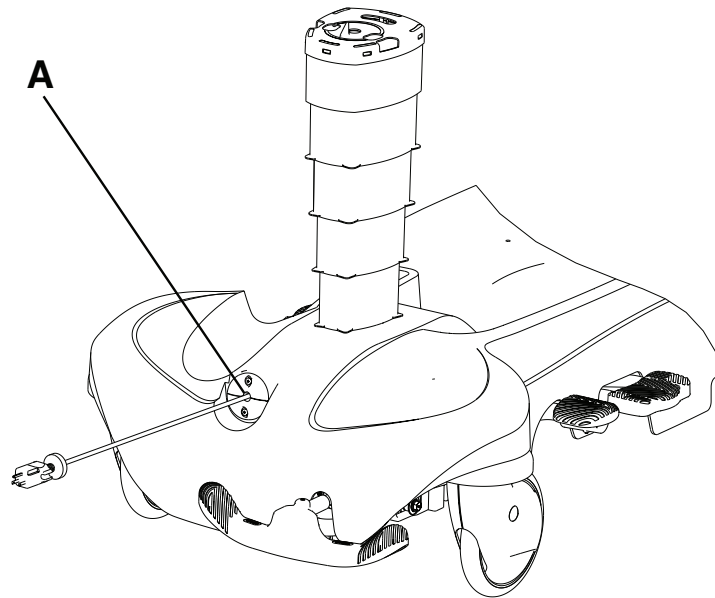

Figure 23 – Retractable cord reel
To extend the power cord, pull the power cord out from the retractable cord reel (A) to the desired length (Figure 23).